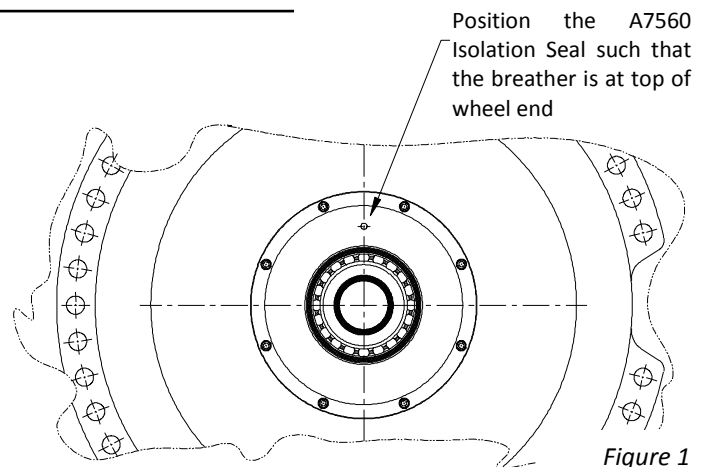

Figure 1
2. Position the isolation seal with the breather located near top dead centre (see Figure 1). Check that the hole in the steel spacer plate fitted behind the isolation seal is aligned with the breather. Using Loctite 262 torque bolts to 47Nm (35 ft/lbs).